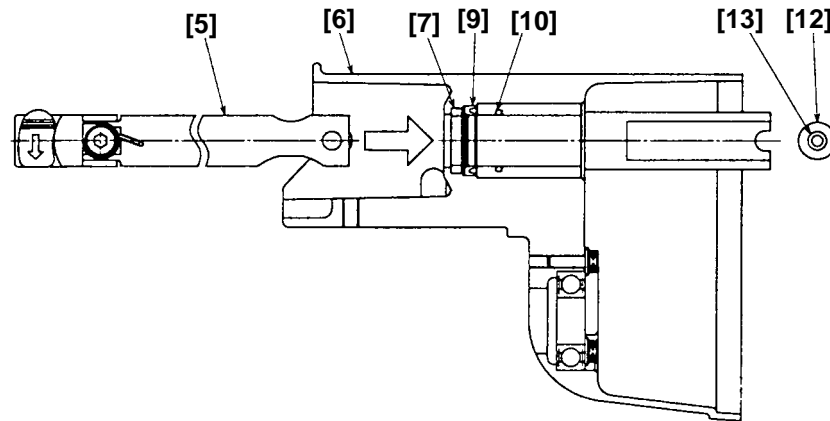

Fig. 17
(5) Mounting Plunger (B) [5] to Gear Cover (B) [6] (Fig. 17)